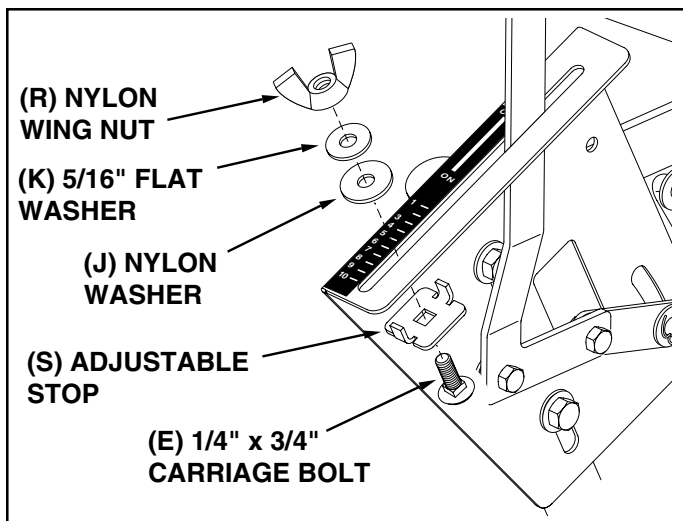

FIGURE 11
23. Place the adjustable stop (S) into the "ON" end of the slot in the top of the flow control mounting bracket. Secure with the 1/4" x 3/4" carriage bolt (E), a nylon washer (J), a 5/16" flat washer (K) and the nylon wing nut (R). See figure 11.